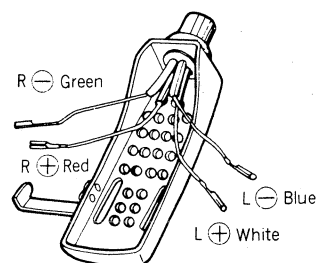

Fig. 6
- (1) Attach the cartridge to the head shell with cartridge fixing screws.
- (2) The polarities and L, R channel of the lead wire of the head shell are shown in Fig. 6. The connection should be done according to the terminal indication of the cartridge.